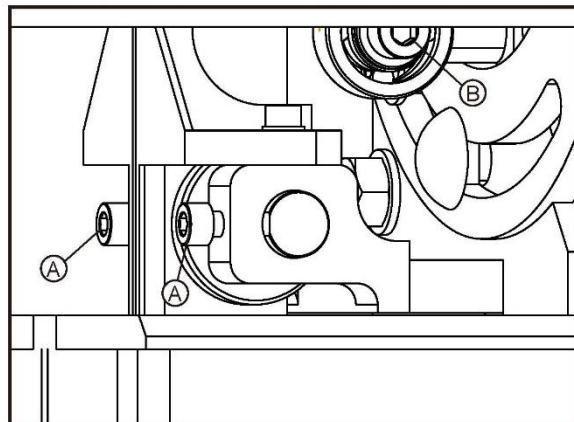

Fig.4.5.2
- To face plate should lightly touch the blade, to prevent vibration during operation and ensure correct direction of cutting. The positioning of these face plate is controlled by screw "A"(Fig.4.5.2), once they have been adjusted, tighten the screw "A"(Fig.4.5.2); they should be 2 mm behind the teeth of the blade.The thrust shaft prevents excessive backward movement of the blade whilst in operation , and should be 1-2 mm from the back of the blade: this can be adjusted by screw "B"(Fig.4.5.2).